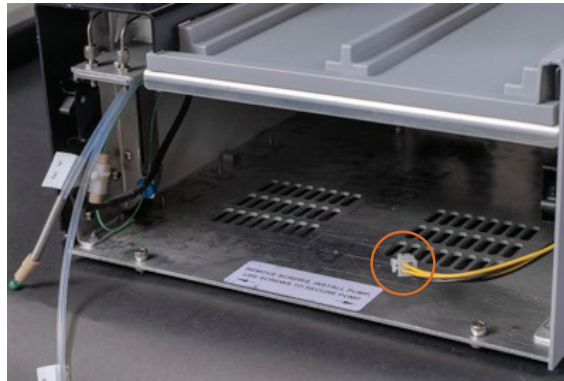

Figure 2-3 Pump compartment with electrical connection shown
3. Slide the pump assembly into the pump compartment. It may require a little force since it is metal on metal sliding together. If the force seems excessive, ensure there is nothing obstructing the pump assembly. Be sure to keep the electrical connections and tubing out of the way so they do not get pushed inside of the compartment (Figure 2-3).